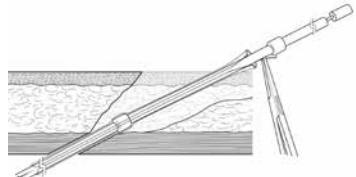

Figure 23
**NOTE:** Keep the tip of the stylette within the abdomen to help the catheter move through the rectus muscle (Figure 23).